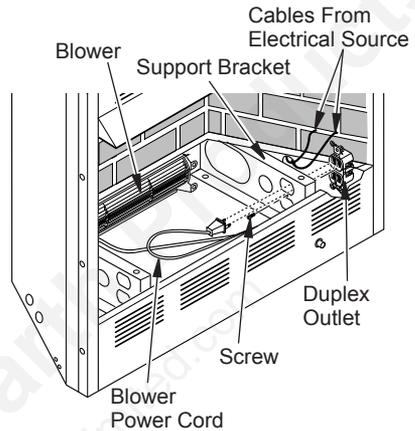

Figure 9 - Routing Blower Accessory Power Cord for Built-In Installation
4. Route wires from electrical box through hole in side of heater and hole in support bracket (see Figure 9).